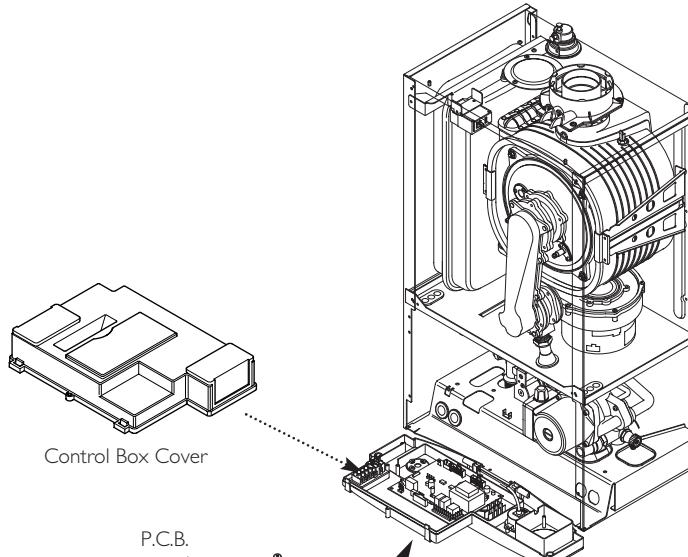

Fig. 82
14.18 P.C.B. (Fig. 82)
2. Completely undo the screws securing the control box cover and release the cover retaining barbs from their slots. Disengage the rear of the cover from the control box hinge pin (Fig. 82).